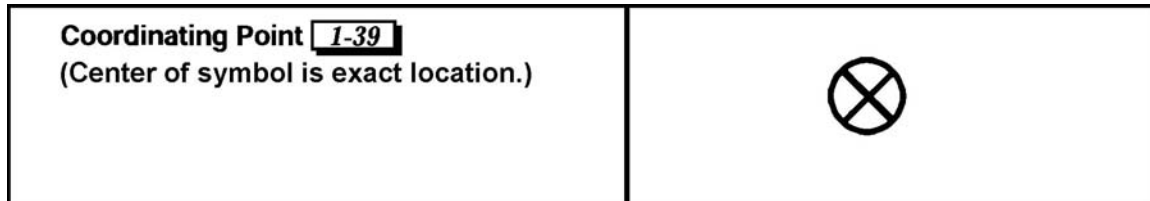

Figure 071-332-5000-23
- (5) Delay lines (DLs). These indicate where a succeeding delay position is located. Delay positions (other than initial) are drawn the same, except that the letter abbreviation is along the line, and none are placed to the flanks at the coordinating points.
- (6) Coordinating points.
- (c) The symbol for a coordinating point is shown by a circle with an "X" centered in it (Figure 071-332-5000-23). The symbol is labeled as appropriate.